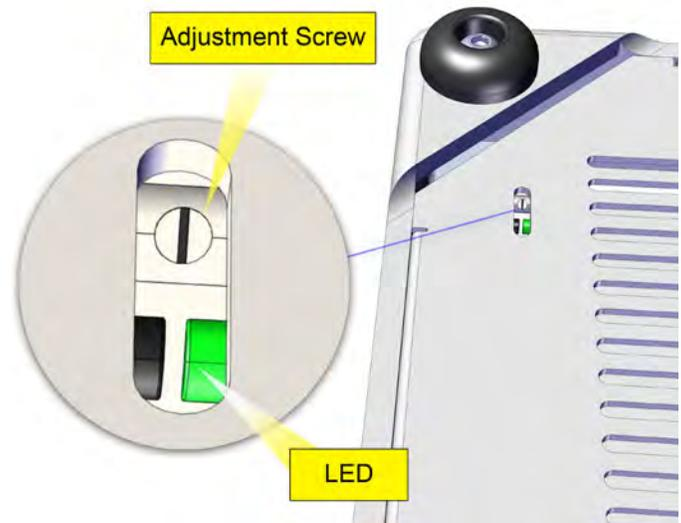

Fig. 18. Adjustment of Photoeye Sensors
3. Locate the two slotted access holes on the underside of the unit. See Fig. 18.